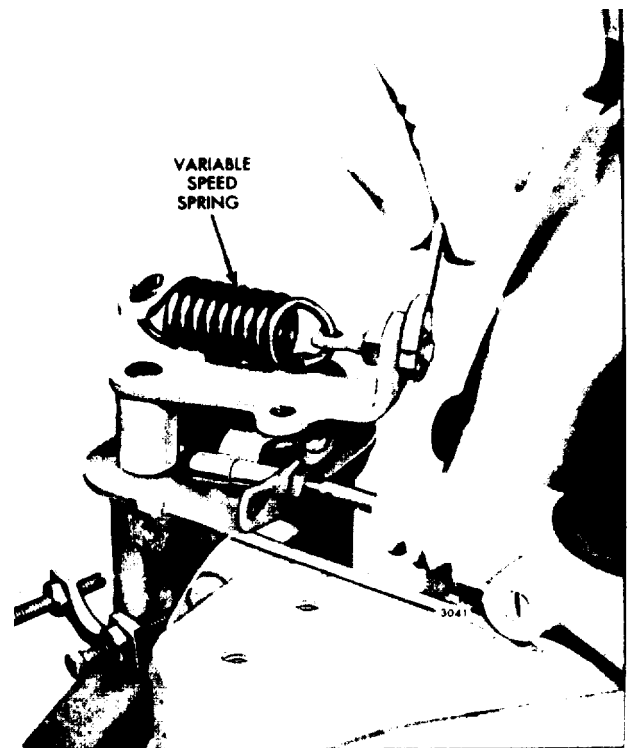

Fig. 2 - Adjusting Governor Spring Eye Bolt
1. Adjust the variable speed spring eye bolt until 1/8" of the threads project from the outer lock nut (Fig. 2).